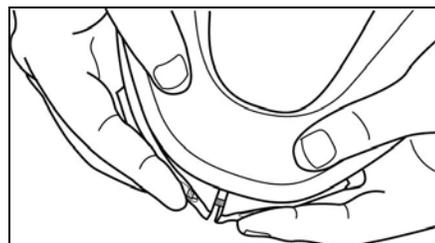

Fig. 26
2. Position new frame, aligning marks top and bottom. Install and securely tighten screw. Make certain alignment marks are properly aligned top and bottom with all components. (Fig. 26)
8. Place new lens and face seal together aligning marks at top and bottom. Position frame, again aligning marks top and bottom. Install and securely tighten screw. Make certain alignment marks are properly aligned top and bottom with all components. (Fig. 26)